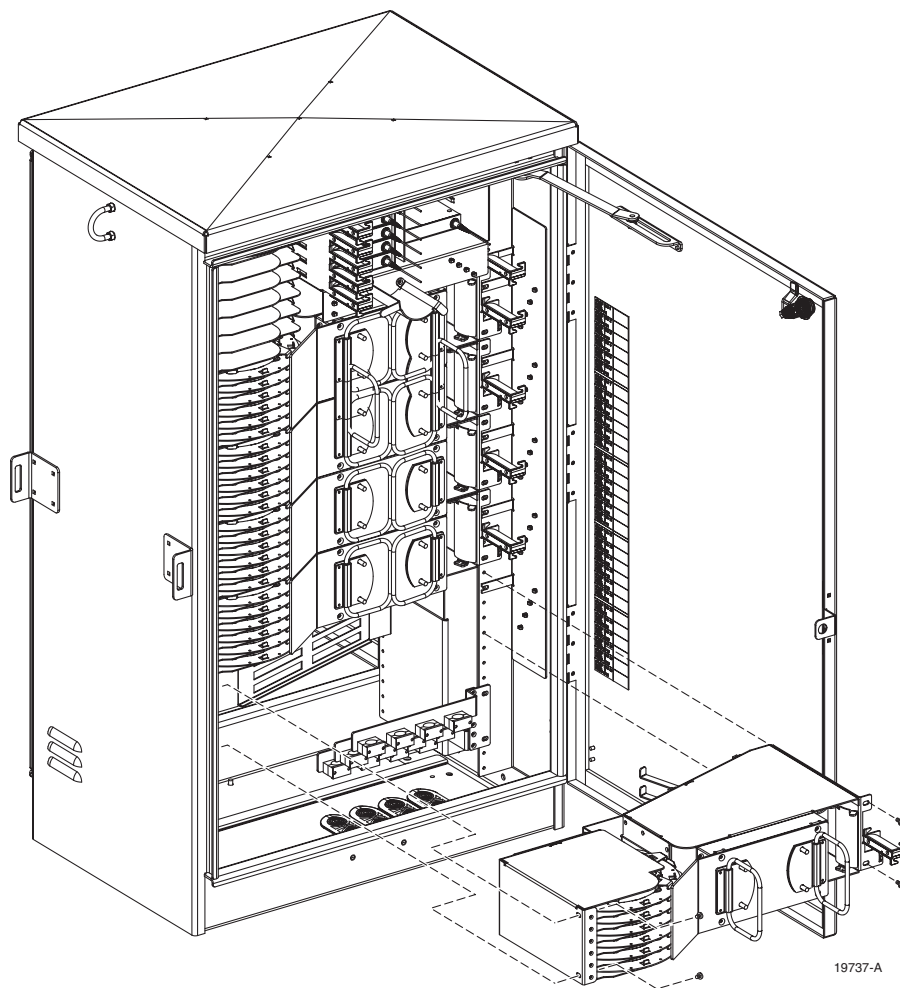

Figure 34. Connector Panel Installation
1. Position the connector panel in the next available mounting space within the cabinet as shown in Figure 34.